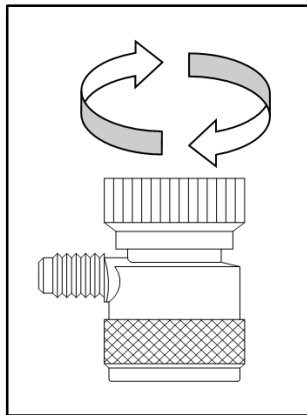

Figure 1
The **RED** and **BLUE** quick couplings with safety closure have to be opened by rotating as depicted in Figure 1:
8. Open the quick couplings (see Figure 1).